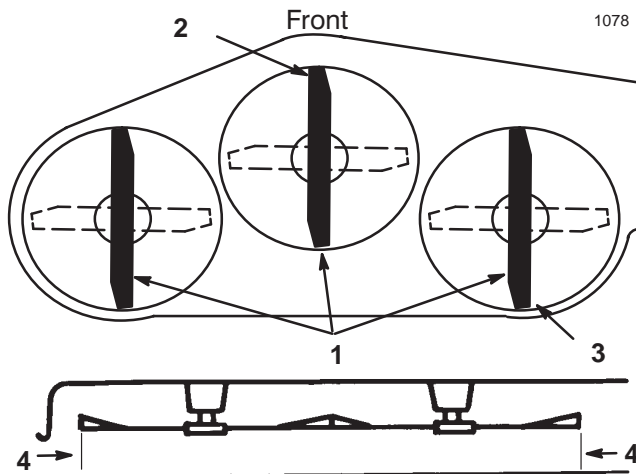

Figure 42
5. Set the height-of-cut at 3 inch (76 mm) and carefully rotate the blades so they are facing front to rear (Fig. 42).
6. Measure between the tip of the front blade (Fig. 42) and the tip of the rear blade to the flat surface. If the front blade tip is not 1/16–5/16 inch (1.6–7.9 mm) lower than the rear blade tip, adjust the front trunnion rods.
9. After adjusting both trunnion rod yokes evenly, secure the yokes with the hairpin cotters. Check the front-to-rear level again. Continue adjusting the yokes until the front blade tip is 1/16–5/16 inch (1.6–7.9 mm) lower than the rear blade tip (Fig. 42).